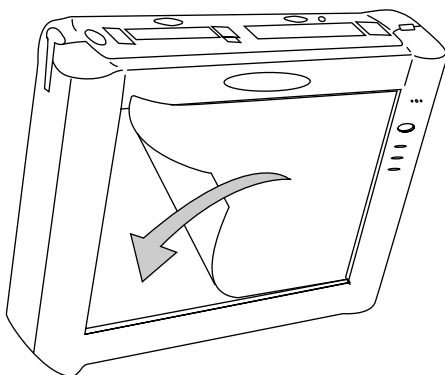

Figure 6. Applying the Screen Protector
- Apply the screen protector with the adhesive side down and the notch in the lower left corner as shown in Figure 6. Apply pressure along the edges of the screen protector with your finger. (Avoid lifting the screen protector from the display window after it is installed. The adhesive requires 48 hours to cure completely.